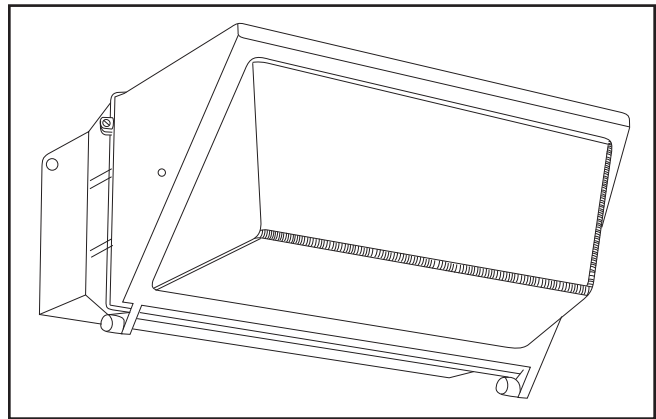

Figure 2. WPLLED125
1. Open the fixture by loosening the two tamper resistant screws with the Torx T-20 bit (included) on the side and remove the glass door assembly. Remove drain plugs (Figure 1. - Figure 2.)